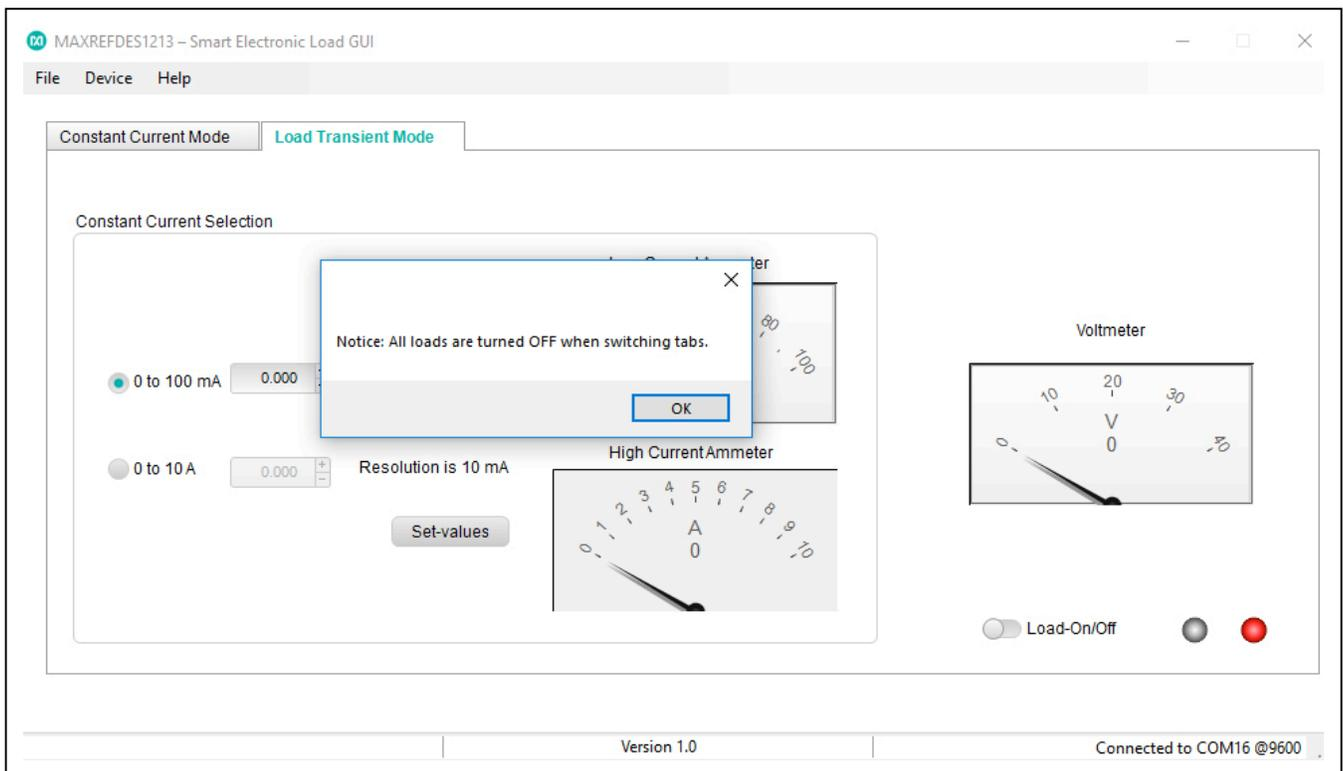

Figure 8. Switching tabs turns all loads off.
6) When switching between tabs, the load is automatically turned off, as indicated by the popup window shown in Figure 8.